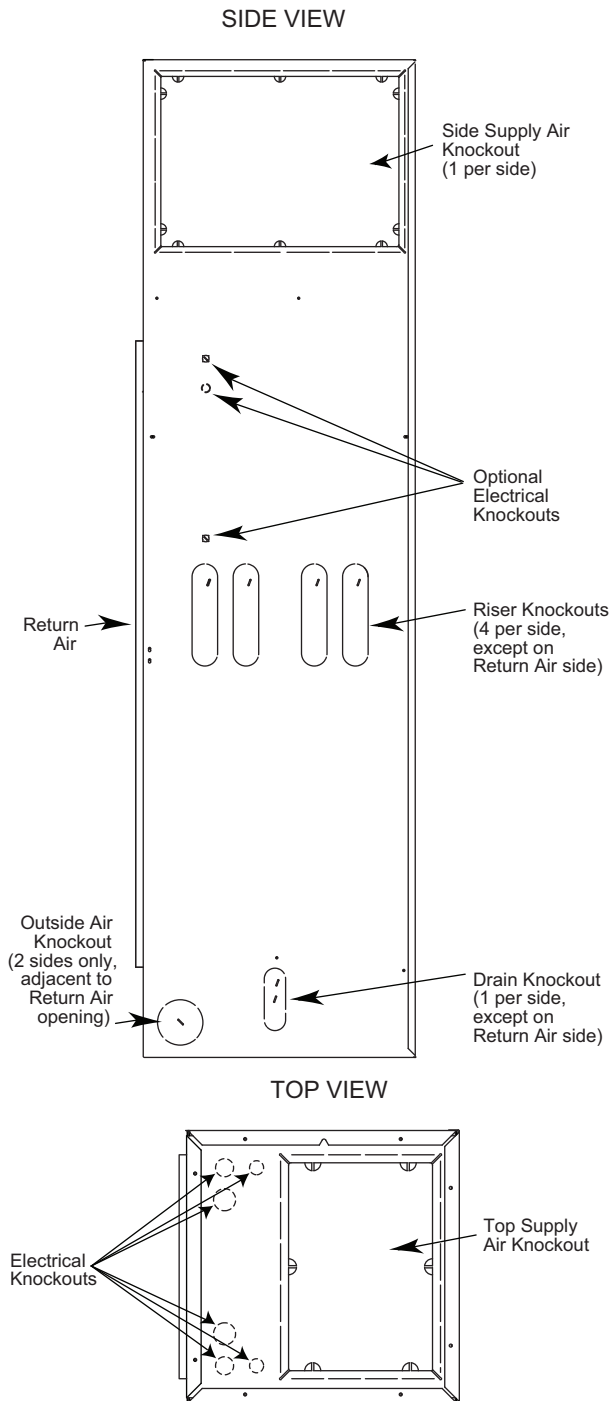

Fig. 20 — Locate 42SUA Unit Knockouts
1. Three sides of each universal stack unit have four supply and return riser knockouts along the center and one drain knockout near the lower part of the unit (see Fig. 20). Identify whether your application uses a 2-pipe or 4-pipe configuration.
Each side of the unit has one supply air knockout as well as a supply air knockout on the top of the unit (see Fig. 20).